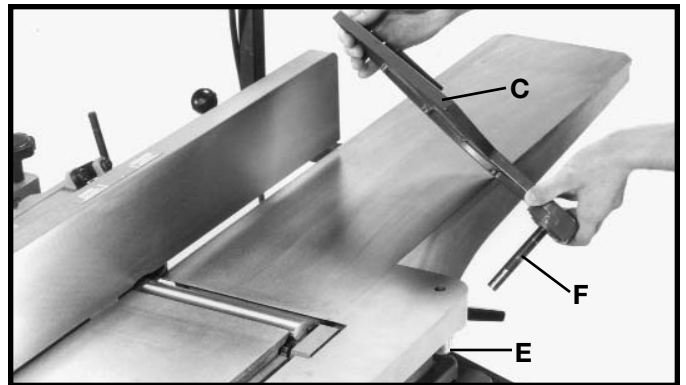
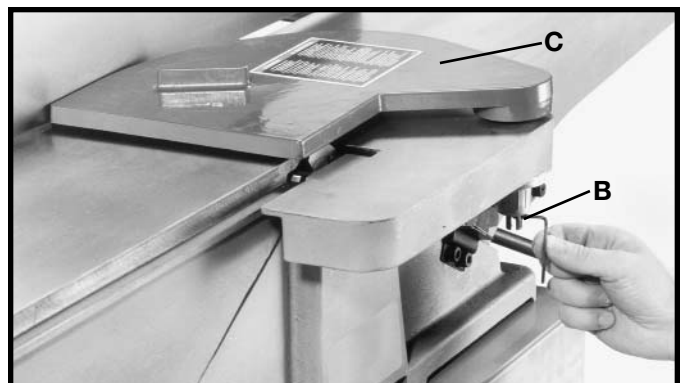

Fig. 20
Fig. 21
1. Remove set screw (not shown) from cutterhead guard post (F) with the 2.5mm hex wrench. Insert post (F) through hole in the infeed table. **NOTE:** A spring is supplied in knob assembly (E) that returns the guard (C) over the cutterhead after a cut has been made. Turn knob (E) counter-clockwise to provide tension on the spring before inserting post (F). Make certain the spring engages in the slot of the post. If spring tension is too tight or too loose, adjust the spring accordingly by removing the guard and rotating knob (E).
2. Thread set screw (B) Fig. 21 back into post (F) Fig. 20, to keep cutterhead guard (C) in position during jointer operation.
3. Fig. 21, illustrates the cutterhead guard (C) assembled to the infeed table.